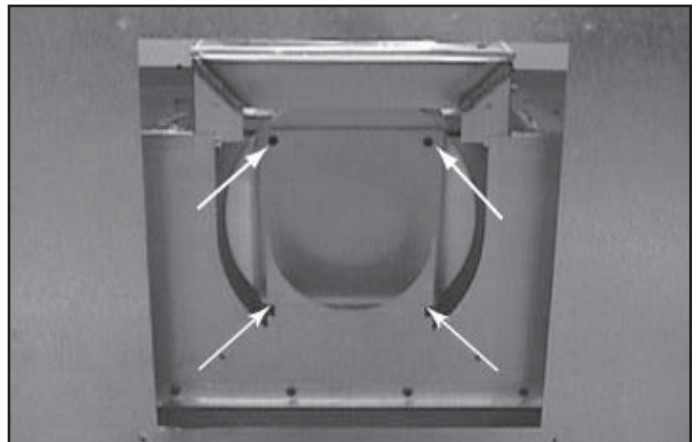

Figure 9.9 Remove Inner Cover Plate
- Remove four screws holding inner cover plate to appliance back. See Figure 9.9. Remove inner cover.